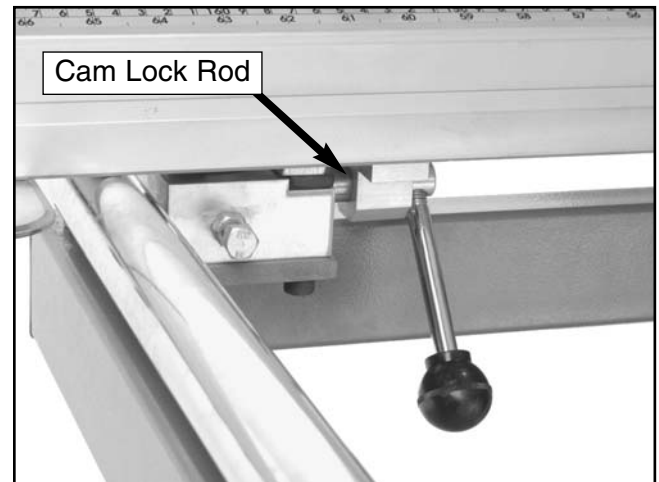

Figure 49. Cam lock rod (1 of 2).
9. Using the handles on the crosscut fence, slide the 2 cam lock rods into the crosscut table (**Figure 49**). Note—*Make sure the locking bolts on the crosscut fence are disengaged so the locating pins will easily fall into the table extension.*